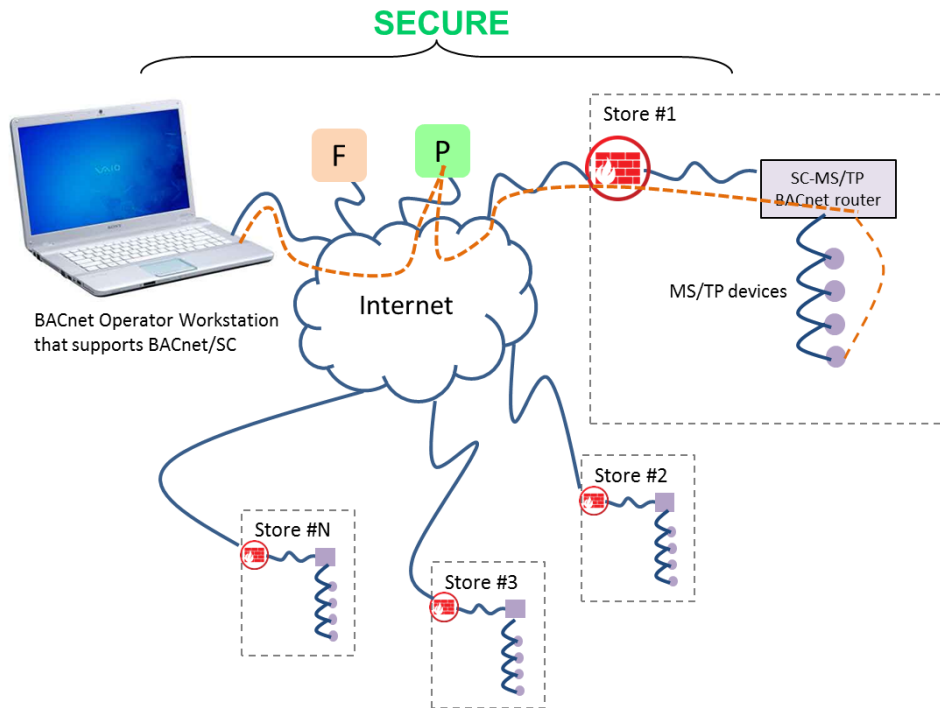

Figure 4: Secure Access to Multiple Facilities across the Internet
- BACnet/SC hub (“P” in Figure 4)
- (Optional) BACnet/SC failover hub (“F” in Figure 4)